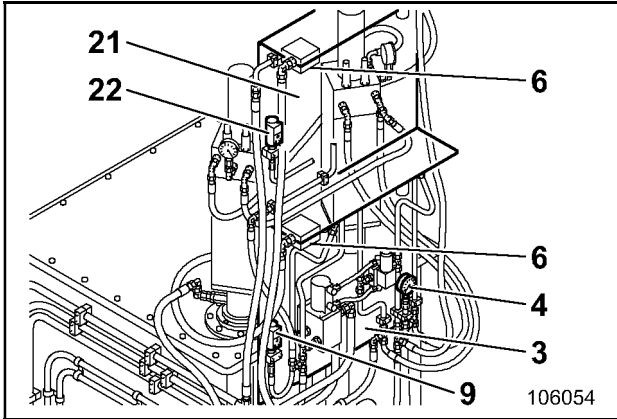

Fig. 3-128:
Check every week, whether the oil pressure indicated by pressure gauge (4, Fig. 3-128:) is 60 bars / 870psi (the pressure is depending on temperature and viscosity of the oil and may vary).
The greasing pressure for the upper structure is indicated by pressure gauge (9, Fig. 3-128:) and for the undercarriage by pressure gauge (22).